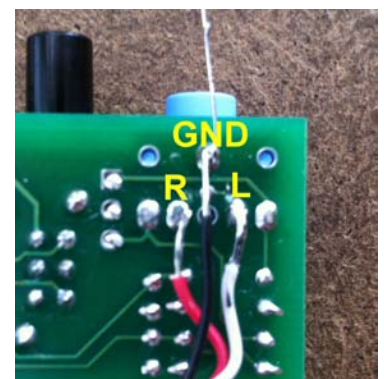

Figure 4: Method 2 Wiring
6. Solder wires to the O2 input jack as shown in Figure 4. Pass wires from the bottom of the O2 board to the top through the removed battery terminal holes.